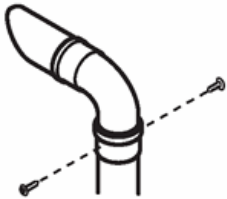

Fig. 33
14. Fit the 93° elbow/plume outlet and secure with the two remaining screws supplied. Ensure the plume outlet is at least 45° to the wall and that the 'peak' is uppermost (Fig. 33).